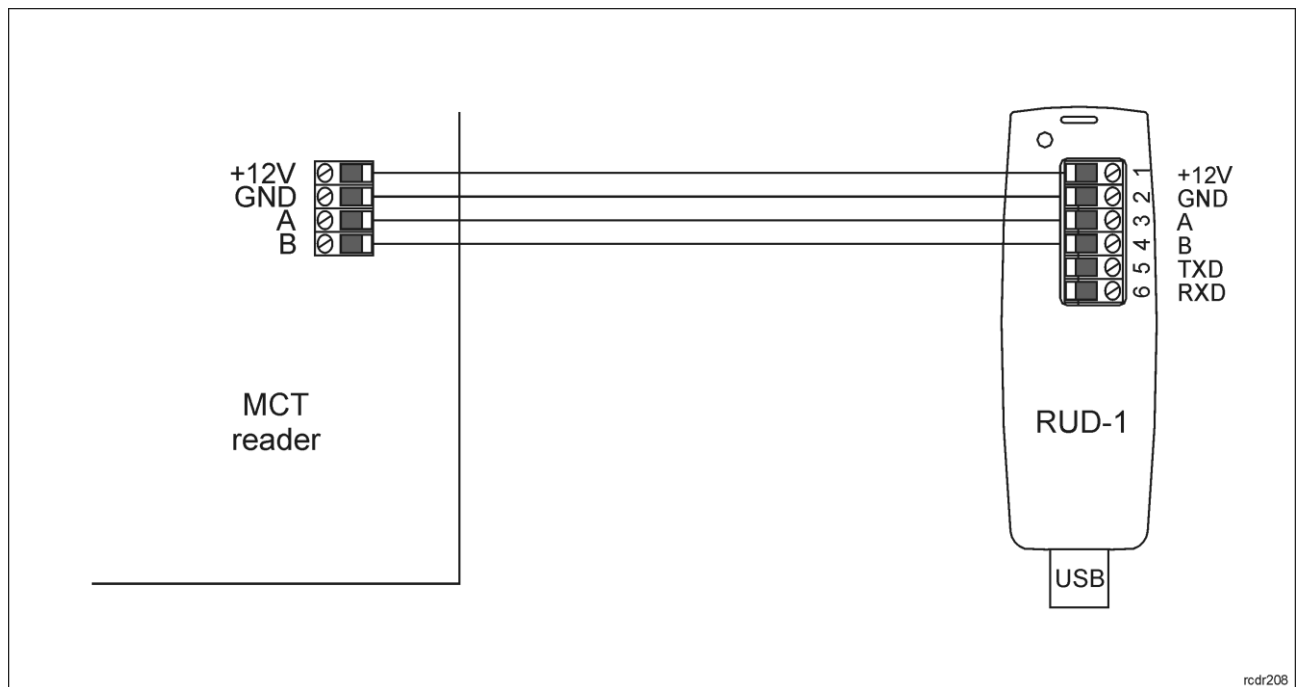

Fig. 9 Connection to RUD-1 interface
1. Connect the reader to RUD-1 interface (fig. 9) and connect the RUD-1 to computer's USB port.
The update requires connection of reader to computer with RUD-1 interface (fig. 9) and starting RogerISP software. The latest firmware file is available at www.roger.pl.